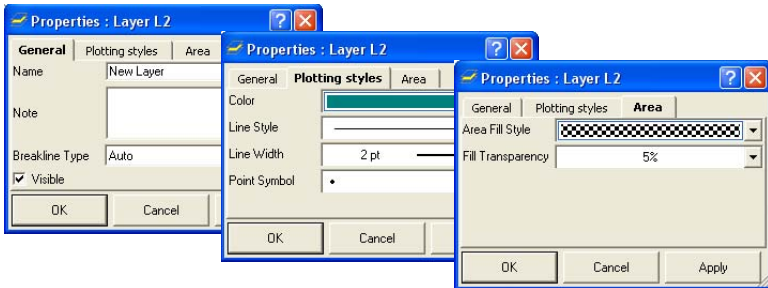

Figure 5-71. Enter and Select Layer's Attributes
2. Enter the following general information for the layer (Figure 5-71 on page 5-48):
3. Select the following plotting information for the layer (Figure 5-71 on page 5-48):
4. Select the following plotting information for the area (Figure 5-71 on page 5-48):